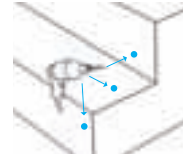

Fig. 1
- Examples of suitable locations are shown in figure 1.